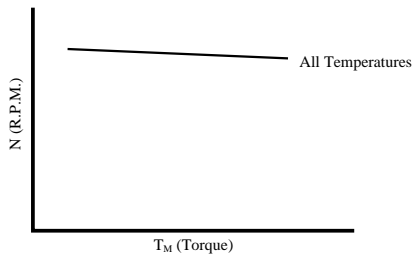

Fig. 3. r_1 Temperature Characteristics = R_a Temperature Characteristics
R_a is the copper coiled resistor of the motor and has the temperature characteristics of + 3,900r.p.m/ $^{\circ}$ C. Therefore, it is necessary to set the value of r_1 so that the relationship in the expression (7) will be satisfied at the minimum working temperature. The diffusion resistance r_3/r_2 in the IC has the flat temperature characteristics, and if the temperature characteristics of r_1 is adjusted to that of R_a , + 3900 r.p.m/ $^{\circ}$ C, the value of the second term ($r_1 r_2 / r_3 - R_a$) of the expressions (4) and (5) shows the flat temperature characteristics and the torque characteristics of the motor speed becomes constant without depending on a temperature. Fig. 2 and Fig. 3 show this relationship.